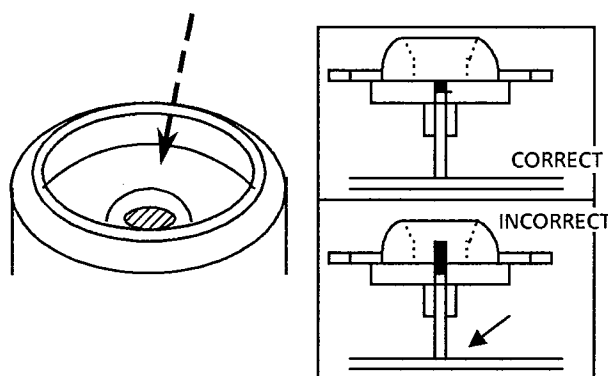

Fig 9
4. After inserting the turntable, bond the motor shaft and turntable together (at the section marked by an arrow in fig 9 on the left below).
5. Use "LOKTITE" #460 bonding agent, and apply as little as possible. Take care not to allow any excess bonding agent to get onto the turntable. Be extremely careful not to allow bonding agent to adhere to the motor bearings (the section marked by an arrow in fig 9 on the right).